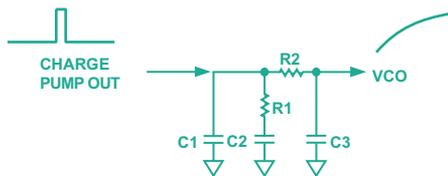

Figure 3. A third-order loop filter. The R2C3 pole provides extra attenuation for spurious products.
**Loop Filter:** There are many different types of loop filter. The most common is the third-order integrator shown in Figure 3. In general, the loop filter bandwidth should be 1/10 of the PFD frequency (channel spacing). Increasing the loop bandwidth will reduce the lock time, but the filter bandwidth should never be more than PFD/5, to avoid significantly increasing the risk of instability.